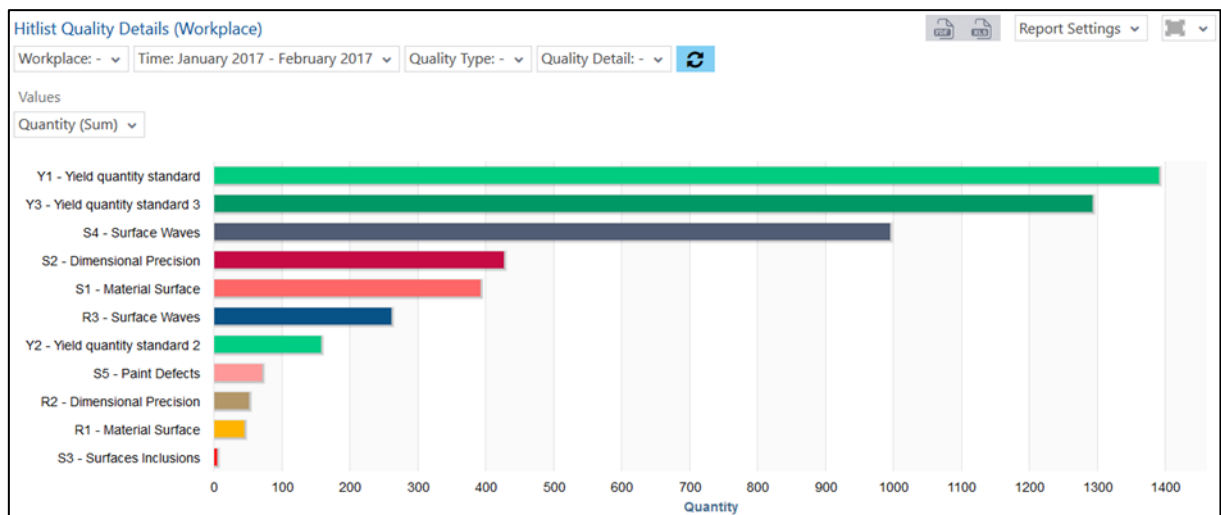

Fig. 109: Hit list quality details (workplace) as a bar chart
- Hit list quality details (workplace) as a bar chart (fig. 109):